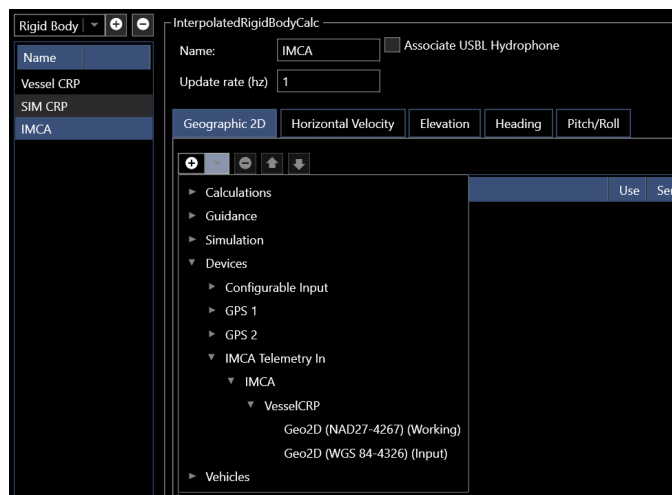

Figure 12 IMCA Device Data Available
3. The decoded data can be used in Calculations, see Figure 12.